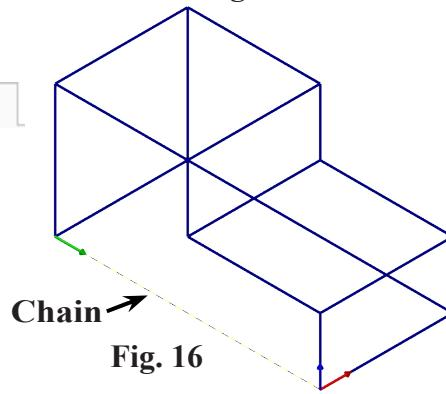

Fig. 16
Step 4. Click the **left end of the bottom horizontal line to start the chain**, Fig. 16.